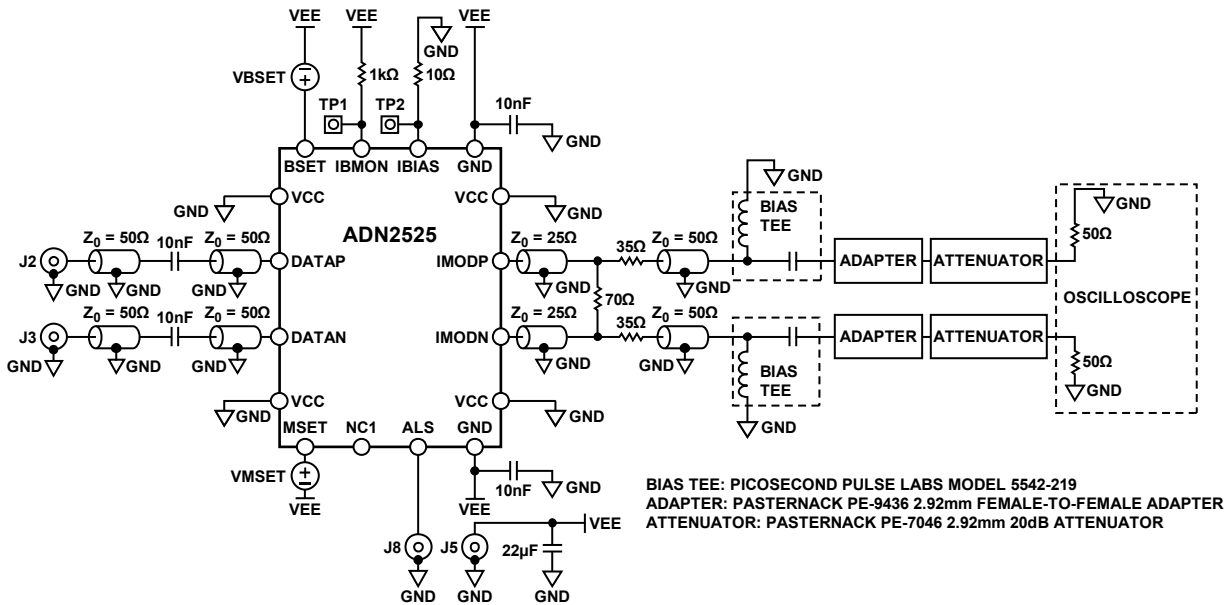

Figure 3. High Speed Characterization Circuit
- ³ Measured using the high speed characterization circuit shown in Figure 3.